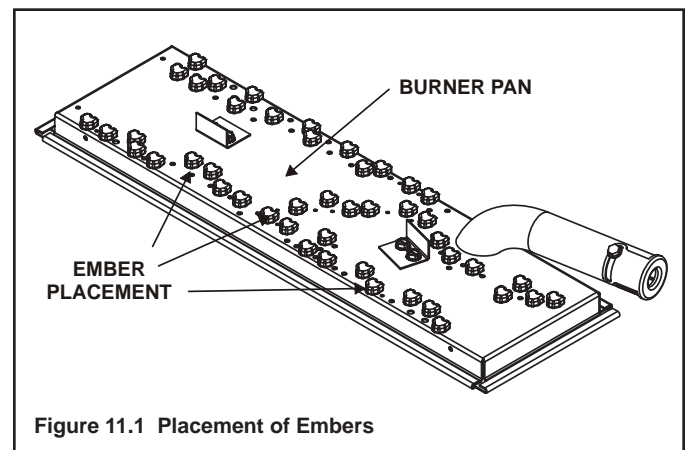

Figure 11.1 Placement of Embers
- When placing Glowing Embers® onto the burner care should be taken so that the ports are not covered. Place the dime-size ember pieces near port holes in burner top, sides and front (see Figure 11.1). Failure to follow this procedure will likely cause lighting and sooting problems.